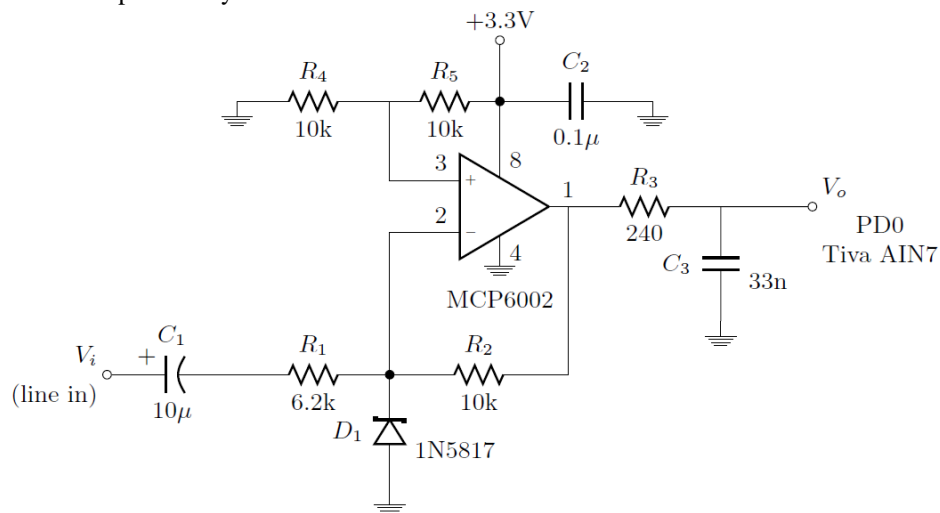
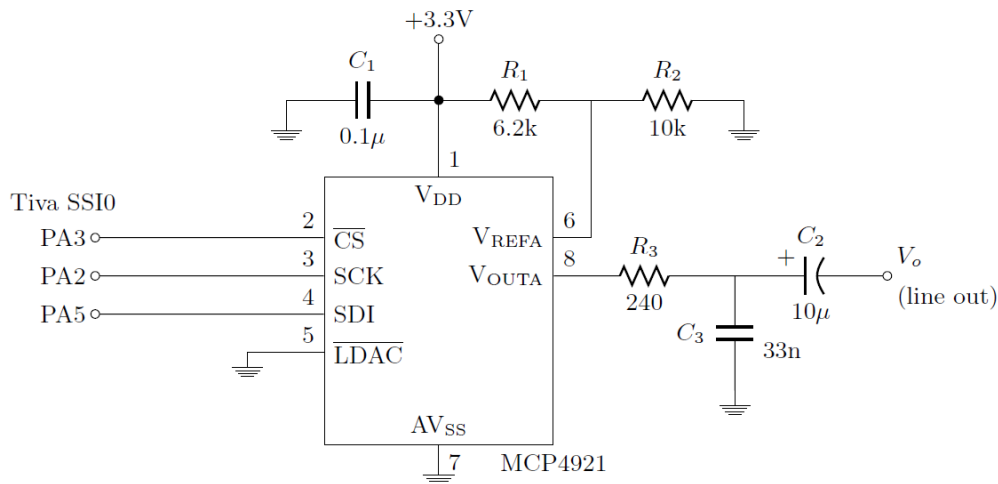

Figure 1: Audio input interface circuit.
Figure 2: Audio output interface circuit.
- Simulate the circuit in Fig. 1 in PSpice. You can use Cadence, www.circuitlab.com, or TI TINA software. If you cannot find MCP6002 in the parts database, you may use MCP602 or any other single-supply rail-to-rail opamp. If you cannot find 1N5817, you may use any Zener diode such as 1N4728A, 1N4729A, and 1N4736A. Obtain frequency-domain response of the system from simulations.
- Build the circuit in Fig. 1 on the left-half space of a breadboard. Connect a function generator at the input V_i and connect oscilloscope at the output V_o . Only connect power and ground pins to LaunchPad. Do not connect to PD0 pin yet.
- Build the circuit in Fig. 2 on the right half of the same breadboard.
- Connect function generator to the input of Fig. 1 circuit. Connect oscilloscope channel 1 to the input of Fig. 1 circuit, and connect oscilloscope channel 2 to the output of Fig. 2 circuit to display two signals on the oscilloscope screen simultaneously.
- In your report, explain the circuits in Fig. 1 and Fig. 2 and your observations.
- Connect computer audio line out signal to the input of your system (i.e., input of Fig. 1 circuit) and connect line out signal of your system (i.e., output of Fig. 2 circuit) to a powered speaker or headphone. For both connections you will need to use the 3.5mm audio jack shown below, which can be directly plugged into breadboard. Also, connect oscilloscope to the line out signal of your system. For the stereo audio plug connector shown below, left channel is on the tip, right channel is on the ring, and the ground is on the sleeve.